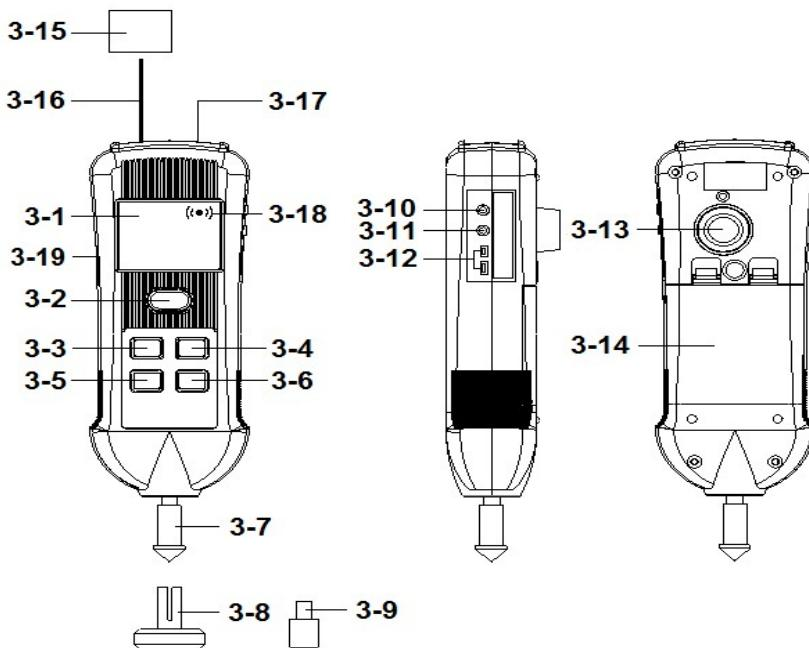

Fig. 1
- 1) Power On the meter by short pressing the " Power button " ( 3-2, Fig. 1 ) >1.5 seconds , the LCD will light.
- 2) Press the " Function button " ( 3-6, Fig. 1 ) (short push) in sequence until to the " Photo RPM " function be selected, in the same time the " Photo light beam " ( 3-16, Fig. 1 ) will be generated.
- 3) Apply a " Reflecting mark " ( 3-15, Fig. 1 ) to the object being measured. and align the " Photo light beam " ( 3-16, Fig. 1 ) with the applied target. Verify that the " Monitor Indicator " ( 3-18, Fig. 1 ) lights when the target pass through the light beam.
- 1) Power On the meter by short pressing the " Power button " ( 3-2, Fig. 1 ) >1.5 seconds, the LCD will light.
- 2) Press the " Function button " ( 3-6, Fig. 1 ) (short push) in sequence until to the " Contact RPM " function be selected.
- 3) Lightly pressing the " RPM Adapter " ( 3-7, Fig. 1 ) against the center hole on the hole of the measured rotating axis.
Making the contact RPM measurement due to different kind measured rotating axis, it may changed the rubber for RPM adapter from " CONE " type to " FUNNEL" type ( 3-9, Fig. 1 )
- 2) Short Press the " Function button " ( 3-6, Fig. 1 ) once again and again until lcd display show the " touch " text, then short press the " UNIT Button " to select the Surface Speed Measurement unit m/min , " ft/min " or " in./min.".
- 3) Change the " RPM Adapter " instead of the " Surface Speed Test Wheel " ( 3-8, Fig. 1 )
- 2) Press the " Function button " ( 3-6, Fig. 1 ) (short push) in sequence until to the " SCOPE RPM " function be selected, in the same time the " Stroboscope flash light (red) indicator " (3-17, Fig. 1 ) will be Light.
- 1) Use the " ▲+ button " ( 3-3, Fig. 1 ) , " ▼- button " ( 3-5, Fig. 1 ) to adjust the exact display value.
- 2) Press the " Function button " ( 3-6, Fig. 1 ) (short push) in sequence until to the " TYPE k " function be selected.
- 3) type k probe inserted into the thermocouple probe terminal " thermocouple probe terminal " ( 3-12, Fig. 1 ).
- 2) Press the " Function button " ( 3-6, Fig. 1 ) (short push) , in sequence until to the " Pt " function be selected.
- 3) TP-1000 probes are connected to the Pt 1000  $\Omega$  probe terminal " ( 3-11, Fig. 1 ).
- 1) Power On the meter by short pressing the "power button " ( 3-2, Fig. 1 ) >1.5 seconds, the LCD will light.
- 2) Use the " Function button " ( 3-6, Fig. 1 )(short push), to select function , until to the " Ir " function be selected.
- 3) Press and hold the IR thermometer test button " Power button " ( 3-2, Fig. 1 ).
- 6) when test value stable then reless the IR thermometer test button " Power button " ( 3-2, Fig. 1 ).
Press the " REC Button " ( 3-4, Fig.1 ) once to start the Data Record function and there will be a " REC "Symbol indicator " will be light.
- a) Press the " REC Button " ( 3-4, Fig. 1 ) once, the " REC and MAX " Symbol indicator will be light , and the maximum value will appear on the display.
- b) Press the " REC Button " ( 3-4, Fig. 1 ) again, the " REC and MIN " Symbol indicator will be light , and the minimum value will appear on the display.
press the " FUNCTION (SET) Button " ( 3-6, Fig. 1 ) continuously at least Five seconds will enter the " Advanced Setting " mode. then press the " FUNCTION (SET) Button " ( 3-6, Fig. 1 ) once a while in sequence to select the two main function, the display will show :
- 1) Use the " **▲** button " ( 3-3, Fig. 1 ) or " **▼** button " ( 3-5, Fig. 1 ) to select the upper text to " yES " or " no ".
- 2) After select the text to " yES " or " no ", press the " REC(Enter) Button " ( 3-4, Fig. 1 ) will save the setting function with default.
- 1) Use the " **▲** button " ( 3-3, Fig. 1 ) or " **▼** button " ( 3-5, Fig. 1 ) to select the upper Display text to " C " or " F ".
- 2) After Display unit is selected to " C " or " F ", press the " REC(Enter) Button " ( 3-4, Fig. 1 ) will save the setting function with default.
- 2) take away the " Battery Cover " ( 3-14, Fig. 1 ) from the instrument and remove the battery.